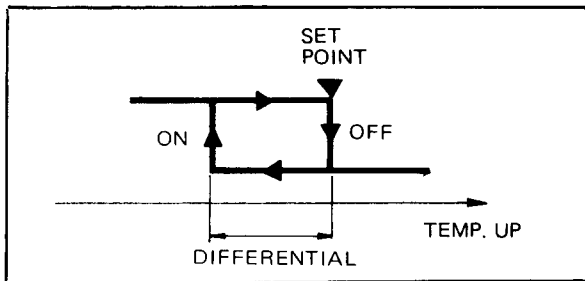
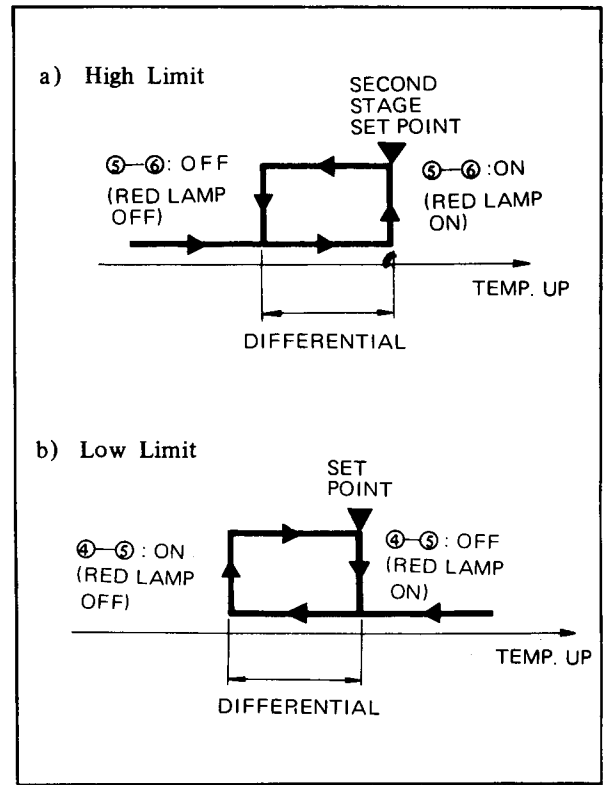

Fig. 4
Fig. 5 Limit relay action
- 3) Set the second stage at the point where red lamp change turn off to turn on. (See Fig. 5)
Do as same as the High Limit except setting the second stage at the point where red lamp change turn on to turn off. (See Fig. 5)
See Fig. 4 and Fig. 5.